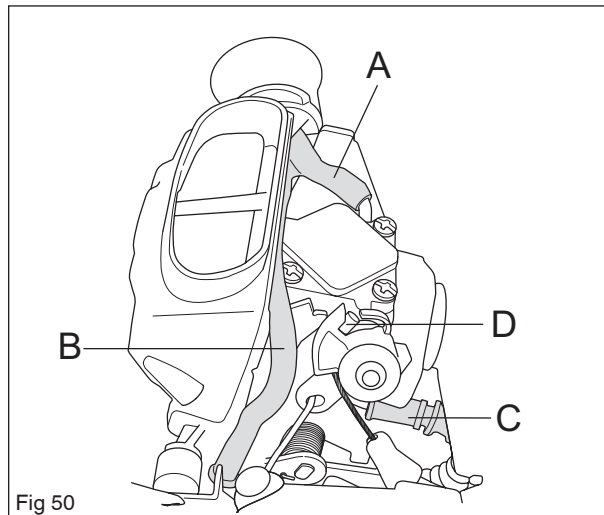

Fig 50
3. Loosen the hoses A to C. See figure 50.
6. Hook on the throttle cable D in the intake bellow. See figure 50.